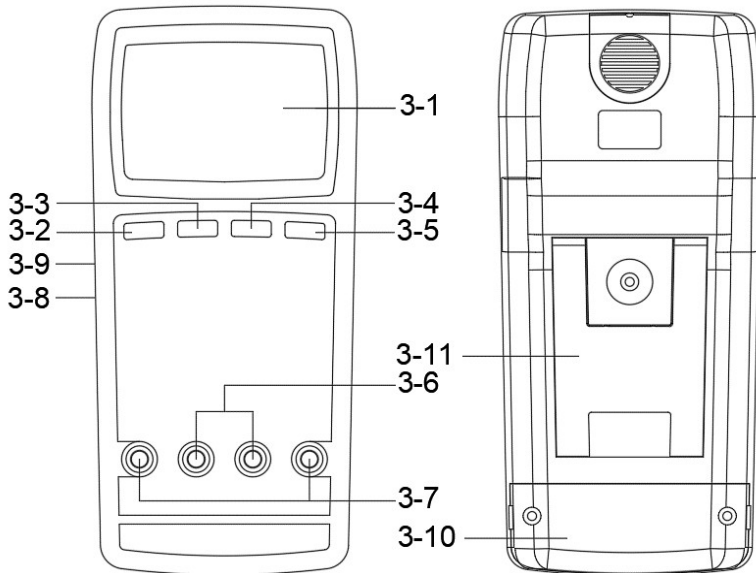

Fig. 1
- 1) Press the " POWER button " (3-2, Fig. 1) more than 1.5 seconds to Turn ON the meter.
- 2) Press the " POWER button " (3-2, Fig. 1) more than 1.5 seconds to Turn OFF the meter.
- 1) Press the " POWER button " (3-2, Fig.1) more than 1.5 seconds to Turn ON the meter.
- 1) Press the " POWER button " (3-2 , Fig.1) more than 1.5 seconds to Turn ON the meter.
- 3) Plug in the DC POWER SOURCE to " WATT " terminal and " 10A " terminal (3-7 , Fig.1).
- 6) Press the " FUNCTION button " (3-3 , Fig.1) once then change function for measuring DC WATT.
- 7) Plug in the LOAD (element or equipment) to " V " terminal and " COM " terminal (3-6 , Fig.1).
- 11) At the same time push the " FUNCTION button " (3-3 , Fig.1) once then change function for measuring DCV/ DCA.
- 2) Press the " FUNCTION button " (3-3 , Fig.1) and " HOLD button " (3-4 , Fig.1) at the same time more than 3 seconds, will into Fast data logger mode and LCD will show in " FAST " at the top of display, on the bottom side of LCD will show in " DATALOGGER " .
- 3) On the bottom side will show in " 2.000 A ", means maximum work current are 2 A, you can press " HOLD button " (3-4, Fig. 1) once to change for maximum current 10 A, and LCD will show in " 10.00 A " .
- 5) Then press " REC button " (3-5, Fig. 1) to execute data logger function, and LCD will show in " REC " at the top of display.
- 7) If you press " FUNCTION button " (3-3, Fig. 1) , meter will send data from " RS-232 output terminal" (3-8, Fig. 1). through RS232 cable (UPCB - 02) or USB cable (USB - 01) into the computer and recording to the software SW-E2005 (optional) or DL-2005 (optional).
- 9) If you intend to exit Data logger function. press the " FUNCTION button " (3-3 , Fig.1) and " HOLD button " (3-4 , Fig.1) at the same time again more than 3 seconds , will leave Fast data logger mode.
During the measurement, press the " Hold Button " (3-4, Fig. 1) once will hold the measured value & the LCD will display a " HOLD " symbol.
Press the " Hold Button " (3-4, Fig. 1) once again will release the data hold function.
- 1) The data record function records the maximum and minimum readings. Press the " REC button " (3-5, Fig. 1) once to start the Data Record function and there will be a " REC. " symbol on the display.
- a) Press the " REC button " (3-5, Fig. 1) once, the " REC. MAX. " symbol along with the maximum value will appear on the display.
If intend to delete the maximum value, just press the " Hold button " (3-4, Fig. 1) once, then the display will show the " REC. " symbol only & execute the memory function continuously.
- b) Press the " REC button " (3-5, Fig. 1) again, the " REC. MIN. " symbol along with the minimum value will appear on the display.
If intend to delete the minimum value, just press the " Hold button " (3-4, Fig. 1) once, then the display will show the " REC. " symbol only & execute the memory function continuously.
- c) To exit the memory record function, just press the " REC button " (3-5, Fig. 1)for 2 seconds at least.
- 2) If the instrument is working. Press the " POWER button " (3-2, Fig. 1) once, can turn ON the Backlight.
- 2) Press the " FUNCTION button " (3-3, Fig. 1) for 3 seconds at least, will into ADVANCED SETTING.
- 3) LCD will show in " Auto " & " yes " , means ensure Auto Power Off function, you can press " HOLD button " (3-4, Fig. 1) once to change state to " no " , means Auto Power Off function is turn OFF.
- 4) If the state is correct, you can press the " FUNCTION button " (3-3, Fig. 1) for 3 seconds at least to save your setting and return to measurement.
- 3) LCD will show in " Auto " & " yes " , press the " FUNCTION button " (3-3, Fig. 1) once again. LCD will show in " bEEP " & " yes " , means ensure Beeper function, you can press " HOLD button " (3-4, Fig. 1) once to change state to " no " , means Beeper function is turn OFF.
The instrument has RS232 PC serial interface via a 3.5 mm terminal (3-8, Fig. 1).